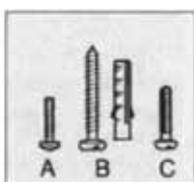

Fig.4
- 1 - Fix the BASE to the box 503 using the C screws (Fig.4).